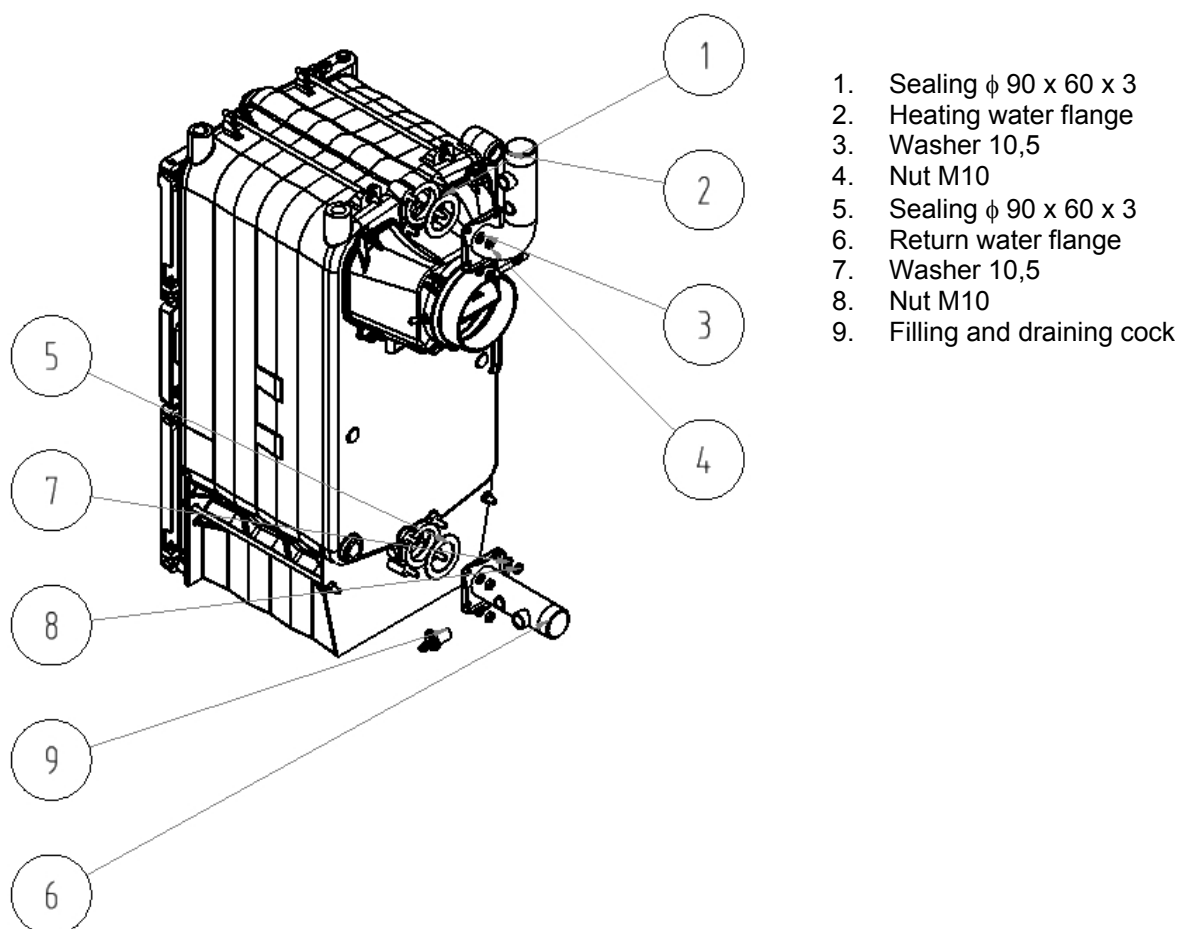

Fig.no.11 Boiler drum installation
6. After the boiler connection to the heating system screw a filling and discharge taps to the rear section according to Fig. No. 11